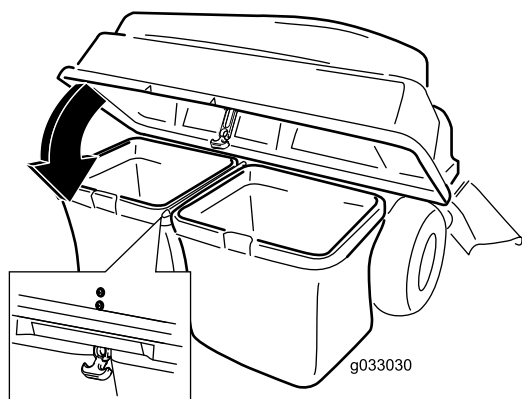

Figure 18
5. Lower the bagger top onto the bags (Figure 18).
6. Secure the hood with the latch (Figure 18).